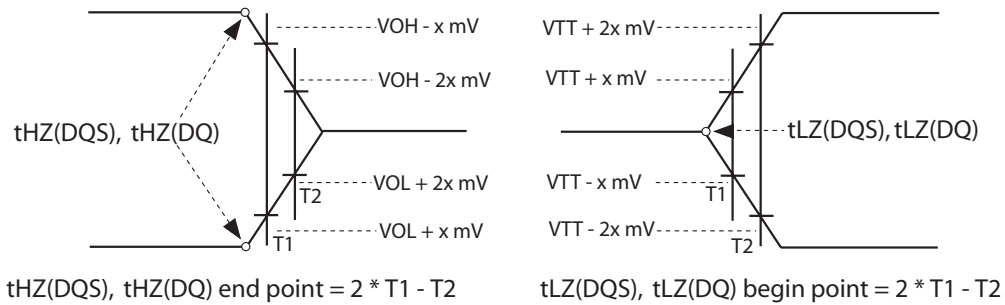

Figure 27 — tLZ and tHZ method for calculating transitions and endpoints
$t_{LZ}(\text{DQS})$, $t_{HZ}(\text{DQS})$ for preamble/postamble (see 4.13.2.3 and Figure 27)
4.13.2.3 tLZ(DQS), tLZ(DQ), tHZ(DQS), tHZ(DQ) Calculation
tHZ and tLZ transitions occur in the same access time as valid data transitions. These parameters are referenced to a specific voltage level which specifies when the device output is no longer driving tHZ(DQS) and tHZ(DQ), or begins driving tLZ(DQS), tLZ(DQ). Figure 27 shows a method to calculate the point when device is no longer driving tHZ(DQS) and tHZ(DQ), or begins driving tLZ(DQS), tLZ(DQ) by measuring the signal at two different voltages. The actual voltage measurement points are not critical as long as the cal-